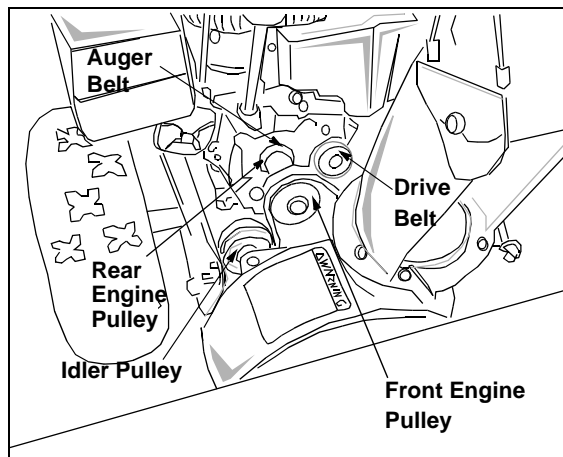

Figure 26
- Remove the two belts from the two engine pulleys. For location of the pulleys, see Figure 26.